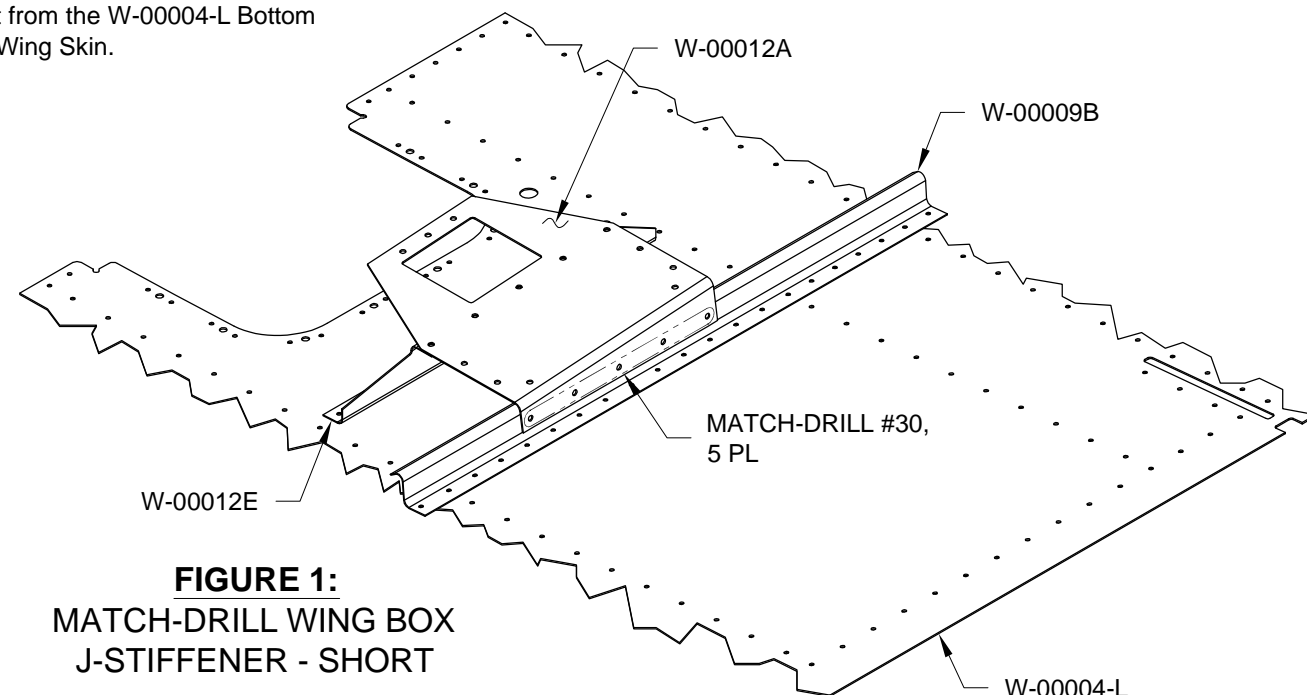

FIGURE 1:
Cleco the ADAHRS mounting zee and ADAHRS mounting plate to the bottom inbd wing skin as shown in Figure 1.
Step 2: Match-Drill #30 the W-00012A ADAHRS Mounting Plate to the W-00009B Wing Box J-Stiffener - Short as shown in Figure 1. Insert a cleco in an adjacent hole before match-drilling the next hole.
Final-Drill #19 the screw holes in the access plate attach locations. See Page 20-05, Figure 1.